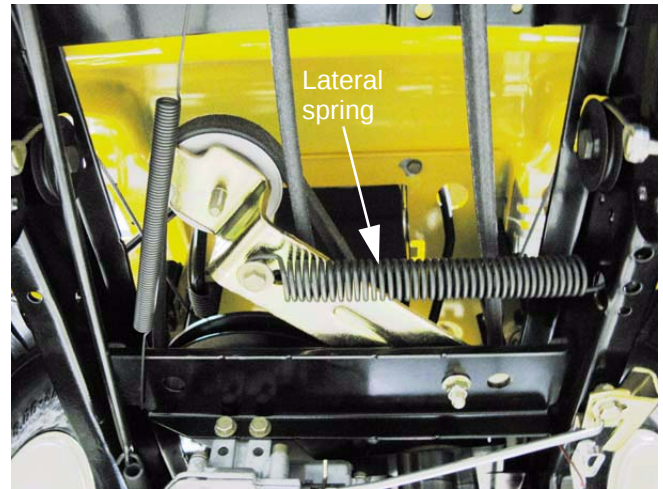

Figure 6.59
- 4a. Release the lateral spring that provides force for the tension idler pulley. See Figure 6.59.